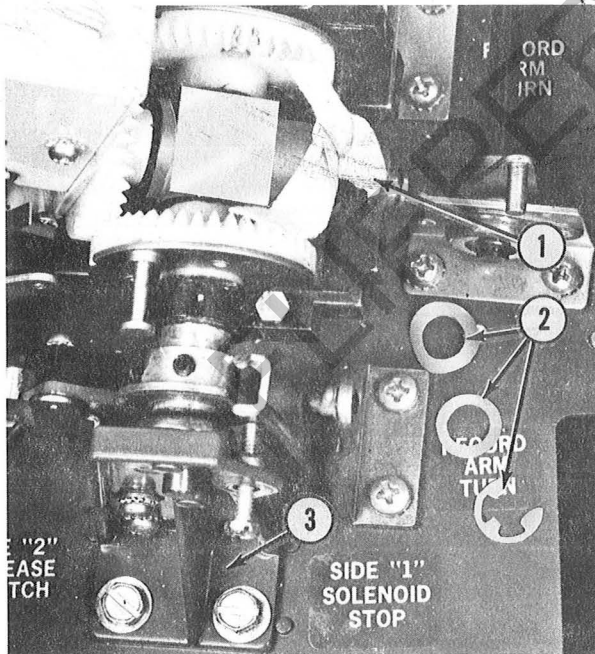

FIGURE 1
2. Remove old pivot casting and bushing assembly (see Fig. 1).
4. Push bail rod down until it touches the pivot casting and shaft assembly. Anchor bail to the pivot casting using a piece of tape or strong string (see Fig. 1).
5. Remove retaining ring, washers and spring washers from shaft of record takeout arm (see Fig. 1). Do not remove takeout arm at this time.